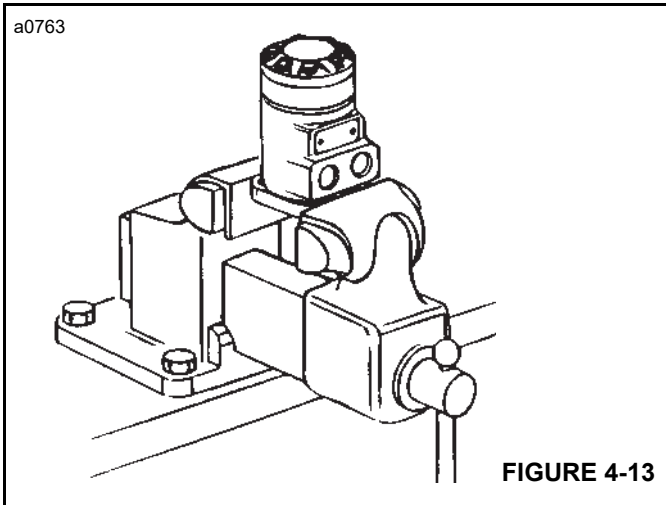

FIGURE 4-13
1. Place the motor in a vice and clamp across the edges of the flange Figure 4-13 with the output shaft facing down. When clamping use protective devices on the jaws, such as soft jaws, pieces of rubber or wood.